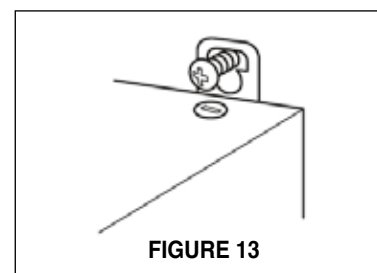

FIGURE 13
1. Using 2 or more people, lift the range hood and place the mounting hood brackets over the mounting screws. **FIGURE 13**